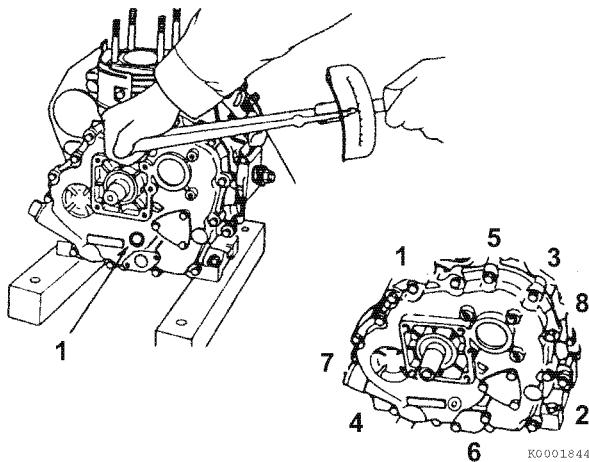

Figure 6-102
5. Install the crankcase cover (1, **Figure 6-102**) while pushing down lightly on the crankcase cover. Slowly turn the flywheel to allow the governor/oil pump drive gear to mesh with the camshaft gear. Maintain the light pressure while “wiggling” the cover slightly to align the balancer shaft bearing and the camshaft bearing with their respective pockets in the underside of the cover until the cover drops into place.
- Tighten the crankcase cover bolts to the specified torque in two stages (1/2 then full torque) in the sequence shown (**Figure 6-102**). See *Special Torque Specifications* on page 6-17.
- Tighten the stiffener bolts after the bolts on the crankcase perimeter are tightened (**Figure 6-102**). See *Special Torque Specifications* on page 6-17.